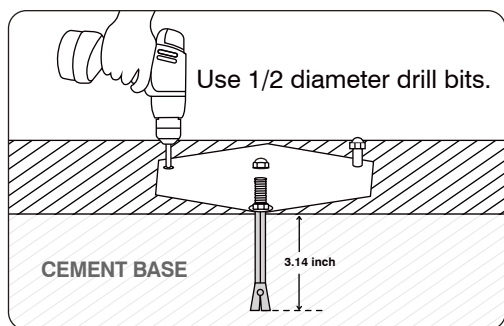

FIG.1
1. Drilling holes in the concrete floor using an electric drill (the specific position can be fixed with the 7 Position Template), the drill depth is about 3.14 inches. (FIG.1)